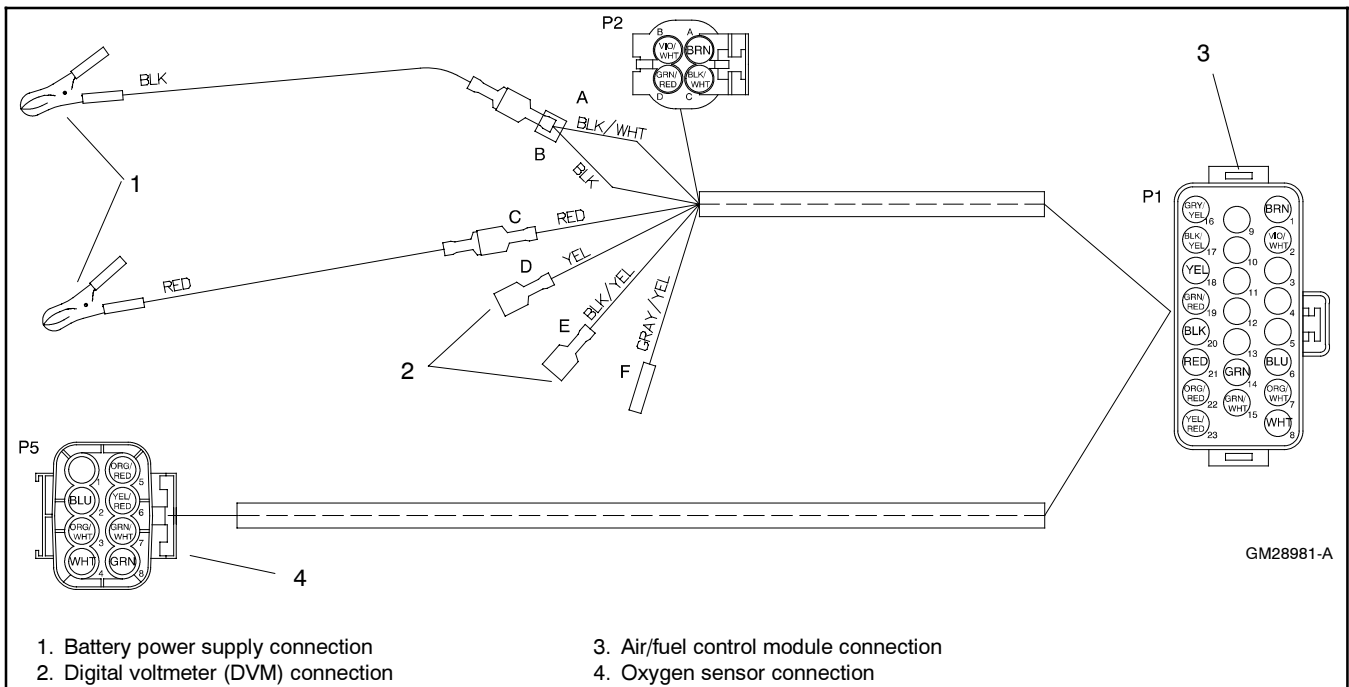

Figure 9-47 Sensor Interface Harness GM28981 Electrical Connections
- c. Connect the oxygen sensor (GM28980) to the interface harness (GM28981). See Figure 9-47.